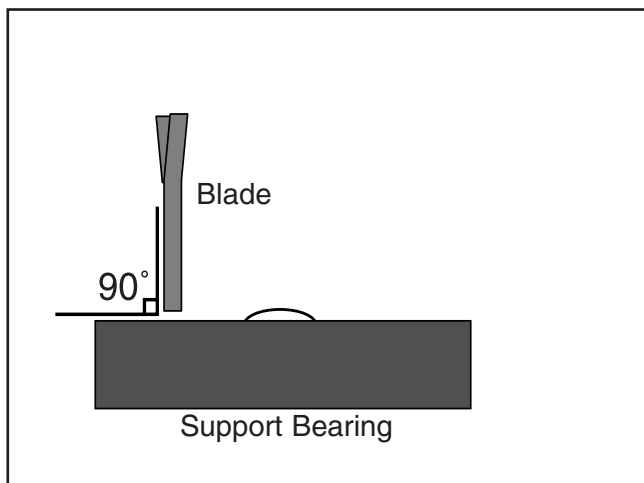

Figure 12. Illustration of blade set perpendicular (90°) to the support bearing face.
- Loosen the guide block assembly cap screw and rotate the blade guide assembly side-to-side, until the blade is perpendicular with the face of the support bearing as illustrated in **Figure 12**.
4. Make sure that the blade guide assembly is perpendicular to the face of the support bearing as illustrated in **Figure 12**.